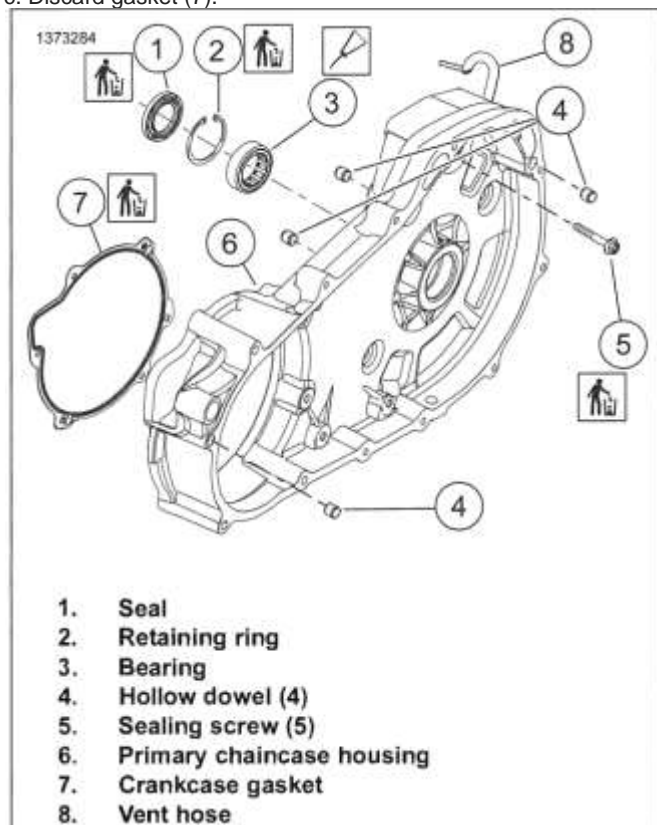

Figure 5-25. Primary Chaincase Housing
1. See Figure 5-25. Remove primary chaincase housing.
- a. Remove and discard screws (5).
- b. Remove primary chaincase housing (6).
- c. Discard gasket (7).
- a. Install gasket on surface (2). Verify dowels in gasket engage dowel holes (3).
- c. See Figure 5-25 Install primary chaincase housing (6) .